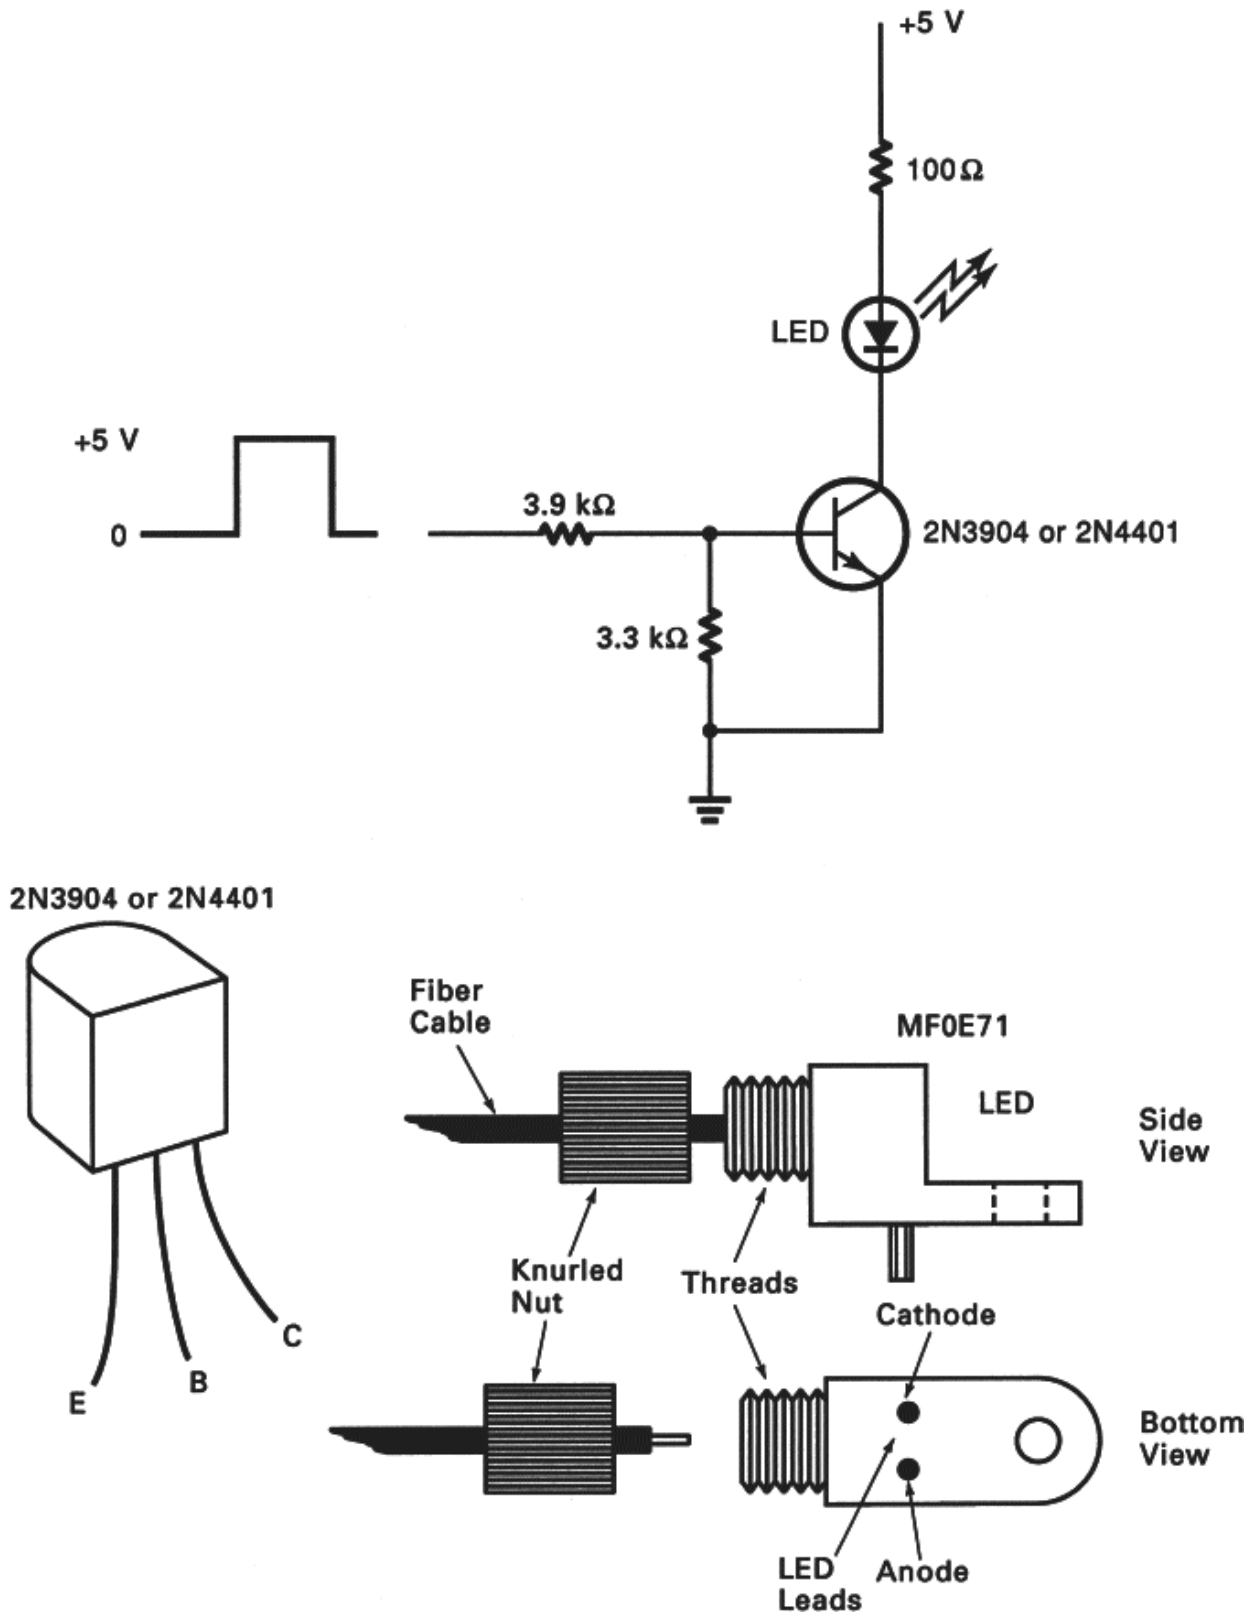

Fig. 20-1 LED transmitter.
3. Construct the transmitter circuit shown in Fig. 20-1. The physical connections to the transistor and LED also are given. Do *not* connect the cable to the LED yet.
7. Remove the knurled nut from the LED housing and slip it over one end of the fiber-optic cable. Then insert the fiber into the LED housing as Fig. 20-1 shows. Push the fiber cable all the way in and then tighten the nut.